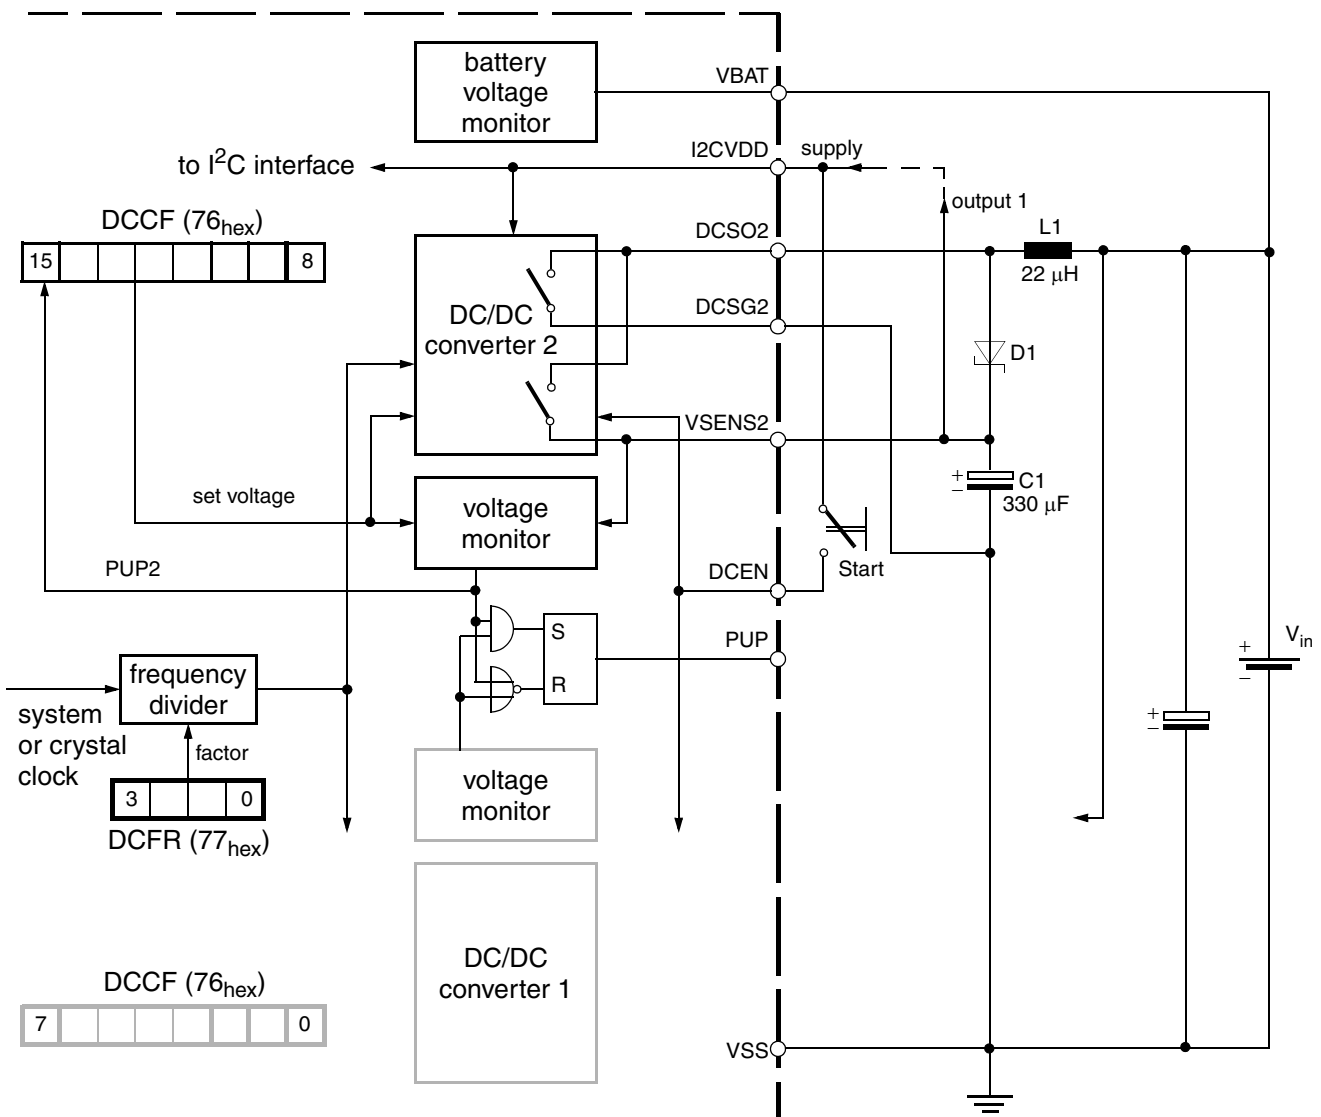

Fig. 2–7: DC/DC converter overview. The DCEN input must be connected to pin I2CVDD via start-up push button.
The MAS 35x9F has two embedded high-performance step-up DC/DC converters with synchronous rectifiers to supply both the DSP core itself and external circuitry such as a controller or flash memory at two different voltage levels. An overview is given in Fig. 2–7 on page 13.
- Power-optimized solution (recommended operation). DC/DC 1 (e.g. 2.2 V) drives the MAS 35x9F DSP and the audio circuitry, DC/DC 2 (e.g. 2.7 V) supplies controller and flash (see Fig. 2–8 on page 14)
- Volume-optimized solution. DC/DC 1 (e.g. 2.7 V) supplies controller, flash and MAS 35x9F audio parts, DC/DC 2 generates e.g. 2.2 V for the MAS 35x9F DSP (see Fig. 2–9 on page 14).
- Minimized external components. DC/DC 1 operates on, e.g., 2.7 V and feeds all components, DC/DC 2 remains off (see Fig. 2–10 on page 14).
- External power supply. All components are powered by an external source, no DC/DC converter is used (see Fig. 2–11 on page 14).